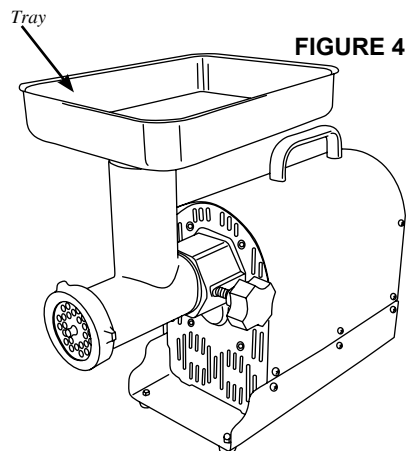

FIGURE 4
8. NEVER operate **Grinder** without the **Tray** secured in place (Figure 4).